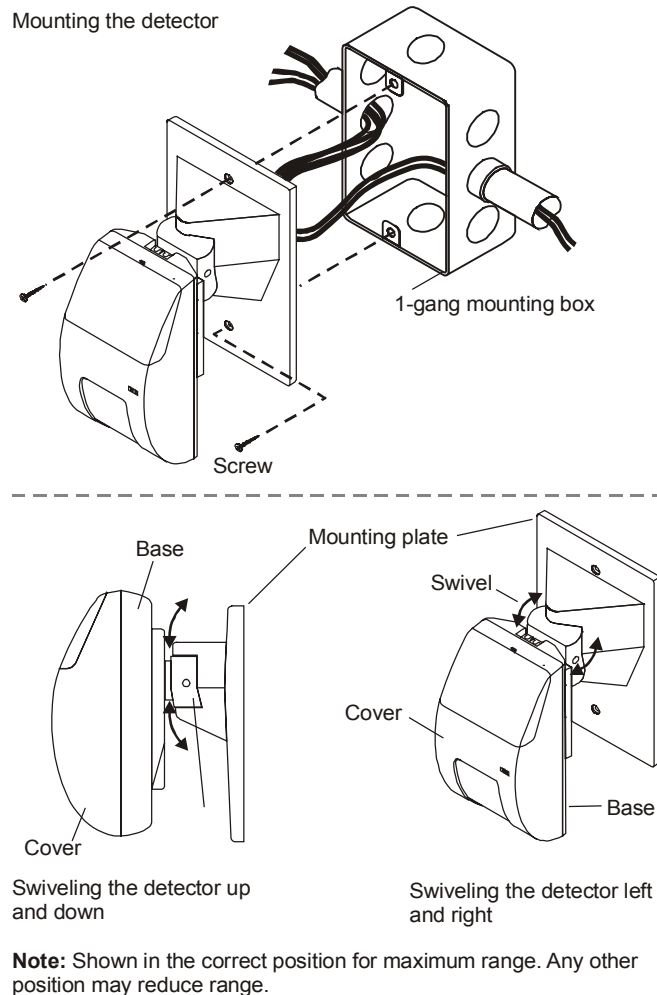

Figure 5: SIGA-MDS mounting illustrations
1. Secure the detector to the 1-gang box with two screws (Figure 5).